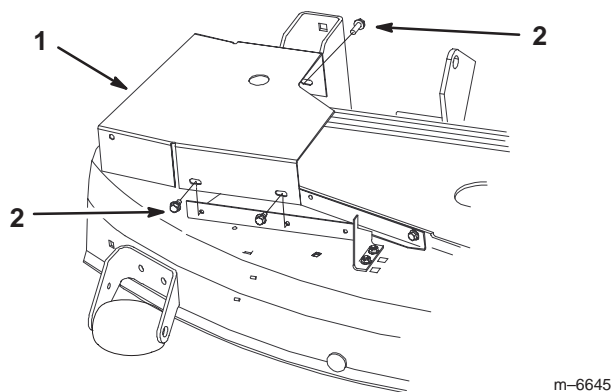

Figure 22
2. Mount the belt cover loosely on top of the mower with 3 flange screws (1/4 x 1/2 inch) (Fig. 22).